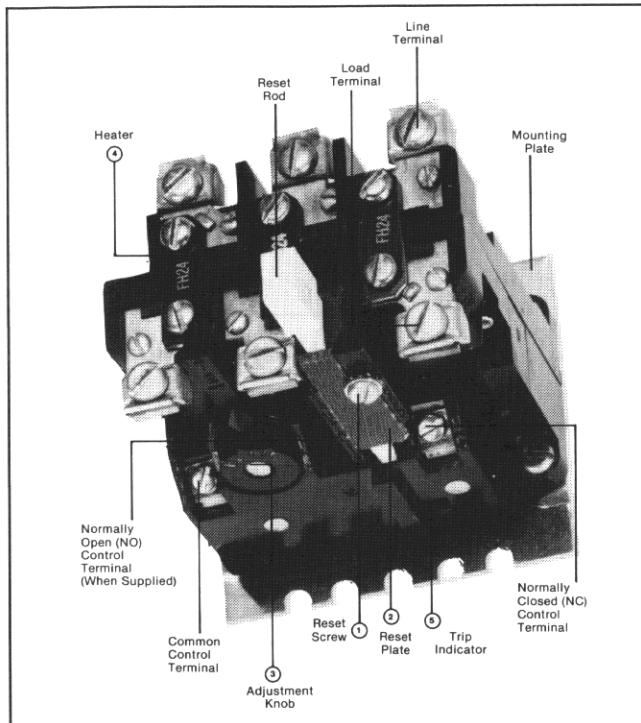

Fig. 1 Size 1 Overload Relay for Panel Mounting
The strip bimetals in the OLR are indirectly heated by the replaceable heater elements (Item 4 in Figure 1) which carry the motor current. Excess heat is generated in these heater elements by an overloaded motor. The heated bimetals deflect to open the normally-closed (NC) contact, thereby opening the coil circuit of a magnetic contactor which disconnects the overloaded motor from the line. After approximately 2 minutes, the relay if hand reset may be reset by pressing the reset rod. For relays in the auto position, resetting occurs automatically.
The overload relay is normally furnished set for "HAND" reset operation. The relay may be set for either "HAND" or "AUTO" reset by slightly loosening the reset screw (1) holding the reset plate (2), moving the plate to the proper position marked on the molded case (away from the panel for "Hand" reset and toward the panel for "Auto" reset) and retightening the screw. (See Figure 1.)
The Type A overload relay gives an immediate visible indication of trip. When an overload occurs, which causes the relay to operate, a trip indicator (5) projects out through a small opening at the bottom of the relay. (See Figure 1.)